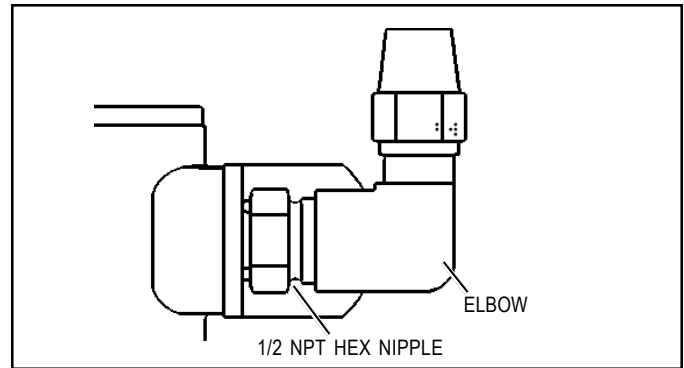

FIGURE 9 - ELBOW FITTING IF NEEDED
1. The *PuraGuard*[®] system filter supply and delivery ports are 1/2-14 NPT. Install minimum 1/2 inch inside diameter air hoses. When installing an elbow fitting use the fitting arrangement shown in Figure 9, using a high strength nipple and then an elbow fitting.